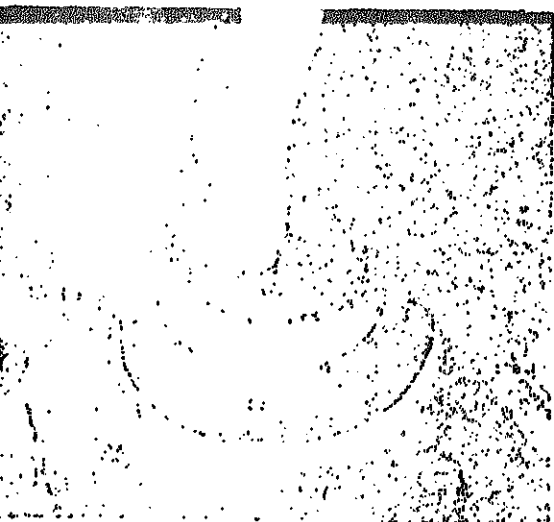

FIGURE 7-75.
a. Remove o-ring on outside of bearing carrier for replacement. Remove bearing lock plate and shims. Check flatness of lock plate with a straight edge. Replace if deformed (see figure 7-75).